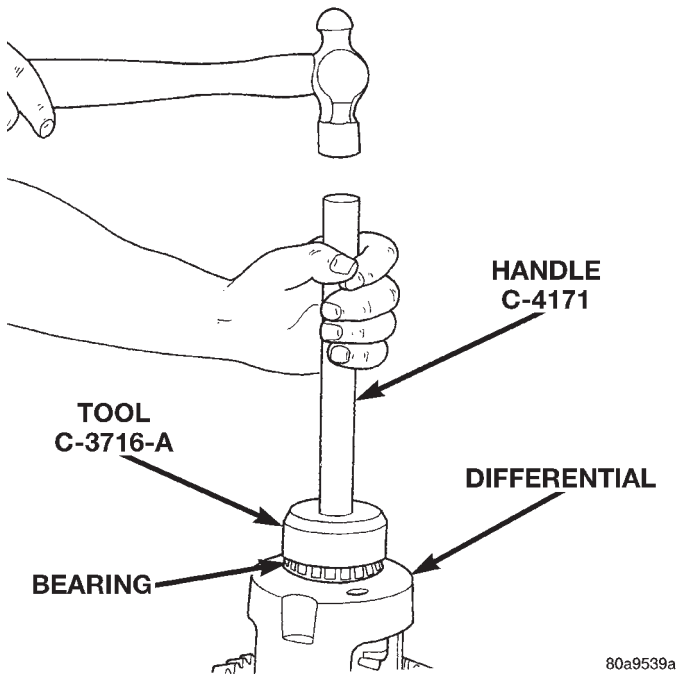

Fig. 31 Install Differential Side Bearings
- (1) Using tool C-3716-A with handle C-4171, install differential side bearings (Fig. 31).
- (2) Install differential in axle housing.